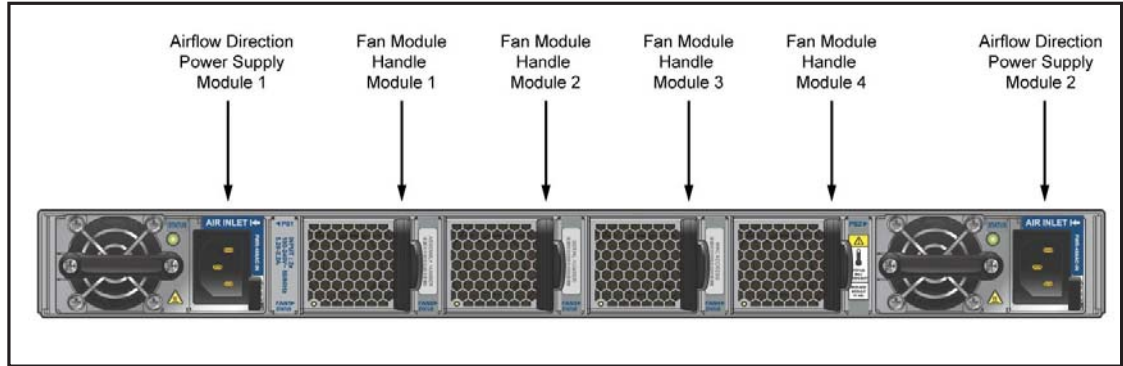

Figure 2-1: Airflow Direction Labels
- **Airflow Orientation:** Determine the airflow direction of the four fan modules and two power supply modules on the rear panel. Figure 2-1 on page 4 indicates the location of the airflow direction label on the power supply modules. The fan module airflow direction label is located on the left side of the handle. The fan and power supply module handles also indicate the module airflow direction: